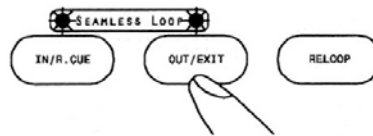

Fig. 14
- c. Press the OUT/EXIT Button again for a new desired ending point of the loop (Fig 14).